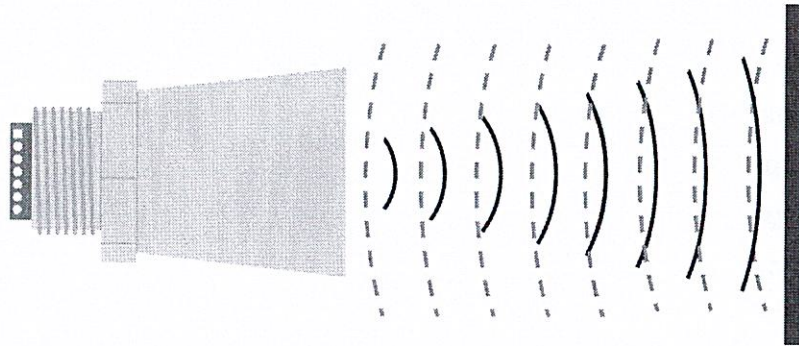

Figure 4
- (a) Explain the working principle of the device as shown in Figure 4.